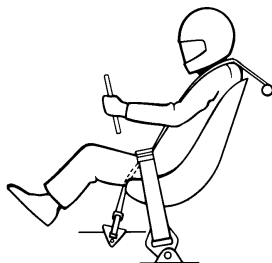
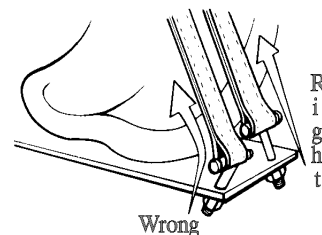

Figure 5: Safety Harness Mounting showing Correct Shoulder, Lap, and Crotch Strap Locations.
Figure 6: Safety Harness Mounting Hardware showing Correct Angle that will Sustain Maximum Load.
All vehicles except Motorcycles and ATV's must have a heavy-duty type five-point fast release (*no push button or quick release type*) seat belt and shoulder harness with metal-to-metal buckles and connectors for each occupant. The single anti-submarine strap of the five-point system shall be attached to the floor structure as close to the front of the seat as practical so that it will exert maximum restraint to the upward movement of the belt and harness, see Figure 5 and Figure 6. The five point system consists of a 3" seat belt, a 2" anti-submarine belt, and two 3" shoulder straps. (two 2" shoulder straps are permitted with head and neck restraint.ONLY). no "Y" type shoulder belts. All belts must show manufacturer's name, month, and year of manufacture. All belts must be changed after three (3) years of date of manufacture. SCORE recommends all belts be changed after one (1) year of use. No surplus safety harnesses are allowed.
Shoulder harness should be mounted behind the driver/co-driver. The recommended mounting point is approximately 4" below top of shoulder. Lap belts should be kept at a minimum at least 2.5" forward of seat and backrest intersection, see Figure 5 and Figure 6. All belts must be mounted directly to a main structure member of the same size specification as the roll cage and with gussets. All adjustment buckles should be kept at a minimum distance of 1.5" from the seat to prevent accidental loosening or chafing.